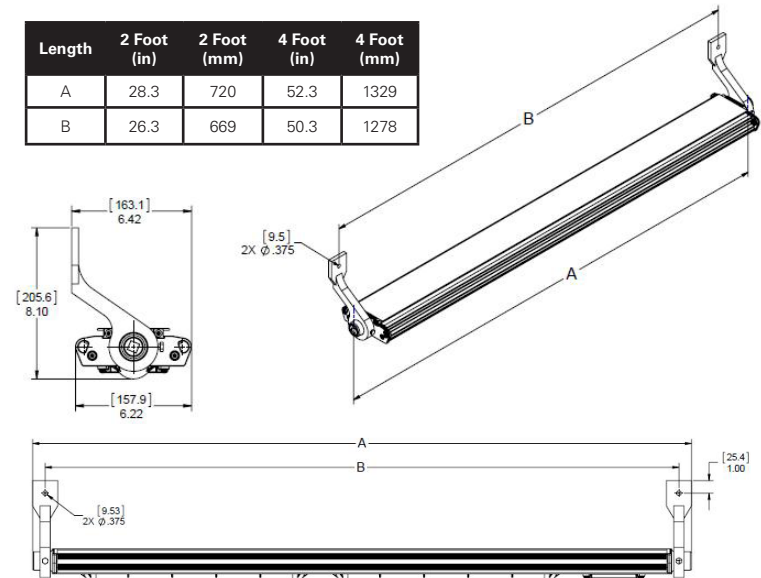

Figure 1. DP1052MTK Side Mount Installation
- Mark and drill holes for fastening end brackets. Use two (2) 1/4" bolts (not supplied) at center to center measurements (see Figure 1).
- Fixture is now ready for mounting. It is strongly suggested to use two (2) qualified tradespeople to proceed with the final mounting of the fixture. This is recommended to avoid any personal injury or damage to the fixture.